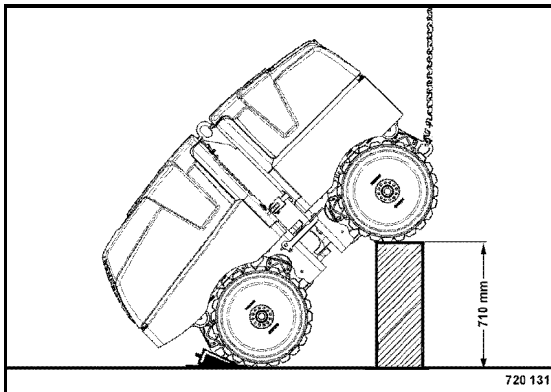

Fig. 109
- Jack up the opposite side of the machine and secure it adequately (Fig. 109).